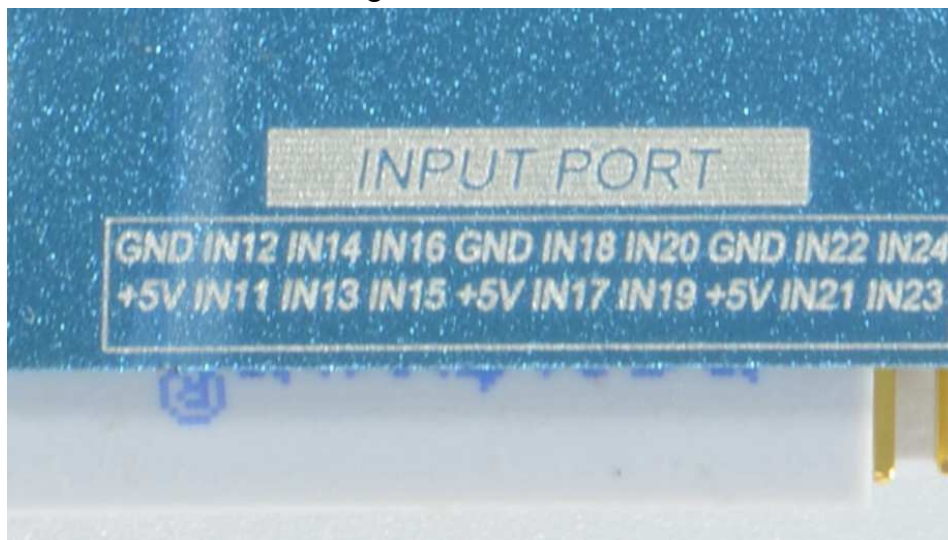

Figure2-5. general input
E) Input port without opticalcoupler. This port has no opticalcoupler, but there are another opto-isolated IC. If there are high voltage input,it can protect the board. The card turn 90° clockwise, see as Figure 2-5,it's defined as GND, IN12, IN14, IN16, GND, IN18, IN20, GND, IN22, IN24 from left to right in top row; it's defined as +5V, IN11, IN13, IN15, +5V, IN17, IN19, +5V, IN21 and IN23 form left to right in bottom row.